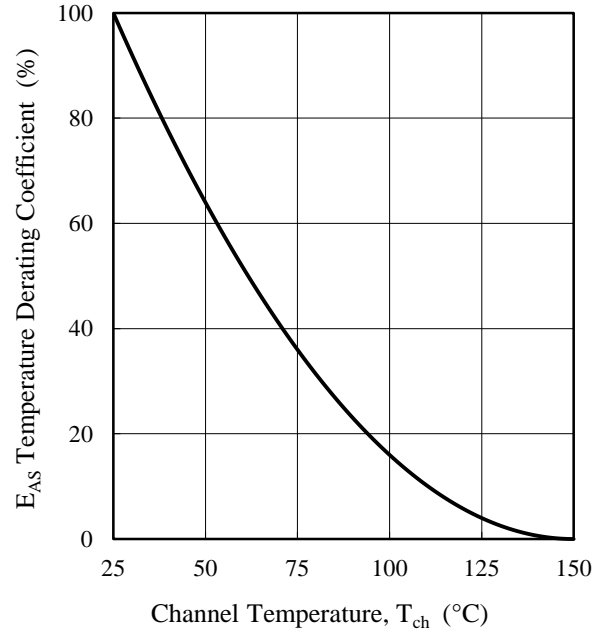

Figure 3-2. Avalanche Energy Derating Coefficient Curve
(2) See Figure 3-2. Avalanche Energy Derating Coefficient Curve